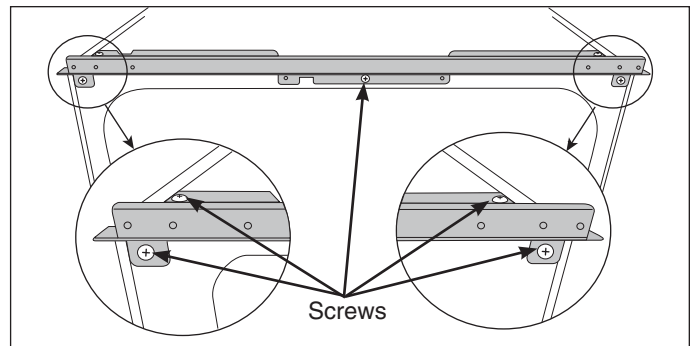

Figure 4-23.
2. Using a #2 square bit screwdriver, extract the three screws from the lower edge of the top rear brace. (See Figure 4-23)